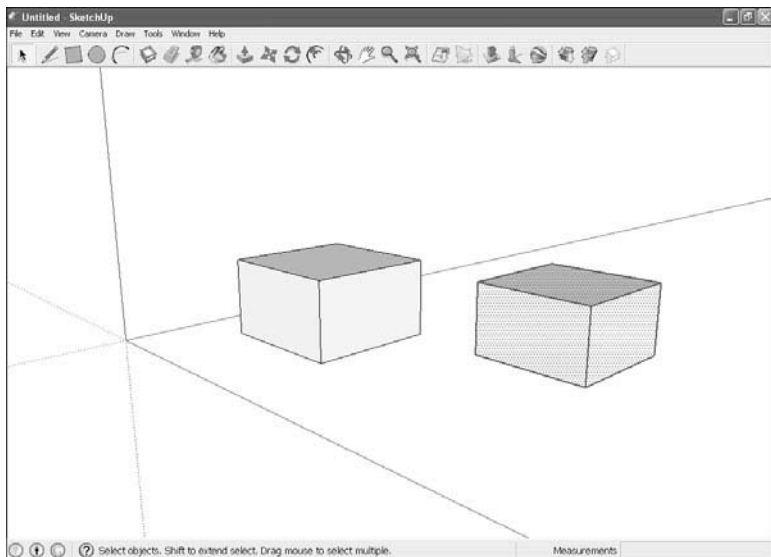

FIGURE 5.17 Copying a cube.
11. Click the mouse. The copy of the object appears at the location you clicked the mouse and stops moving around with the mouse cursor. You can see an example in Figure 5.17, where we've copied the cube.